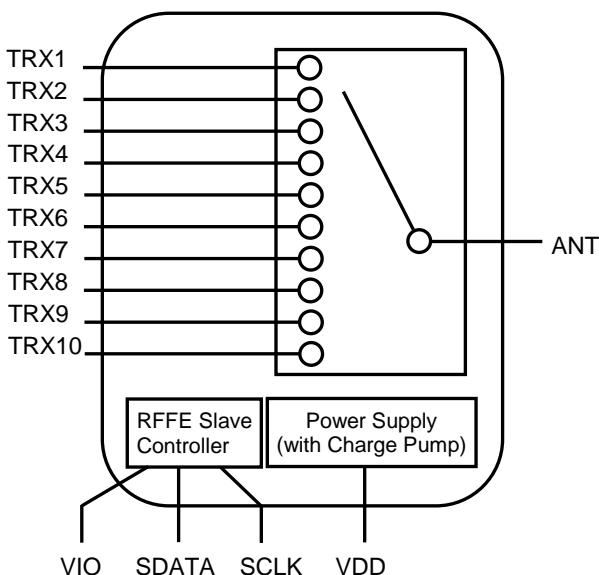
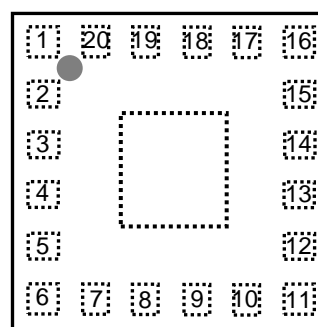

Figure 1. RFASWE660DTF03 Block Diagram
Figure 2. RFASWE660DTF03 Pin assignment
- The functional block diagram is shown in Figure 1. The pin assignment and package are shown in Figure 2. Signal pin assignments and functional pin descriptions are provided in Table 1.